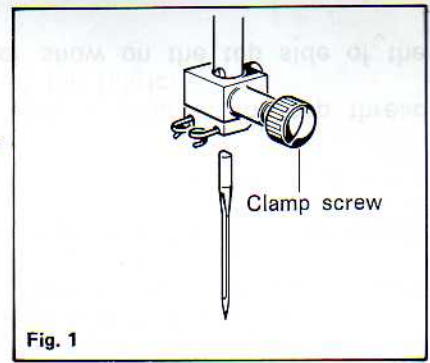

Fig. 1
... to most of your sewing. **To replace needle**, turn off machine. Check that needle is in highest position. Loosen Needle Clamp Screw (28) with screwdriver. Holding **flat** side away from you, insert needle as far as it will go (Fig. 1). Tighten clamp screw securely, using screwdriver.